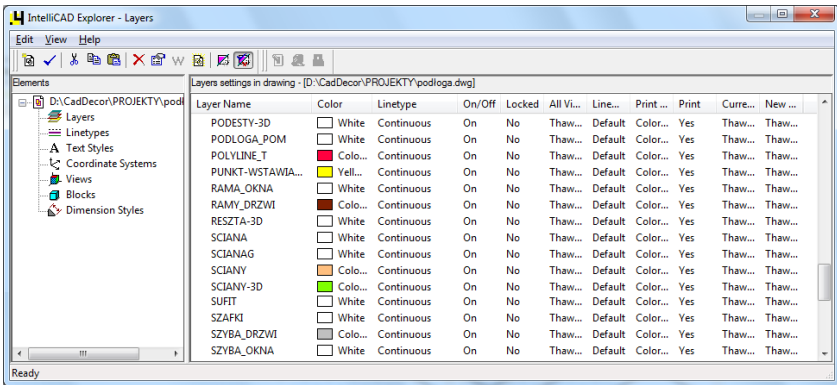

Fig. 122 – IntelliCAD Explorer – Layers
-  **Explore layers...** – opens the **IntelliCAD Explorer** with the **Layer Name** list displayed (Fig. 122); in which all settings for layers can be modified;